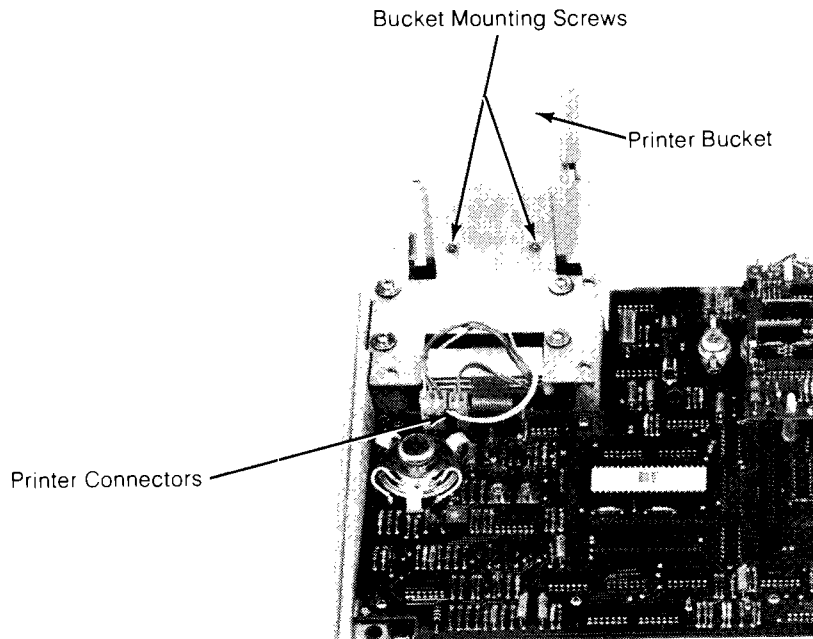

Figure 1-9. Printer Installation
6. Connect the four printer connectors to the A36 assembly as shown in Figure 1-9.